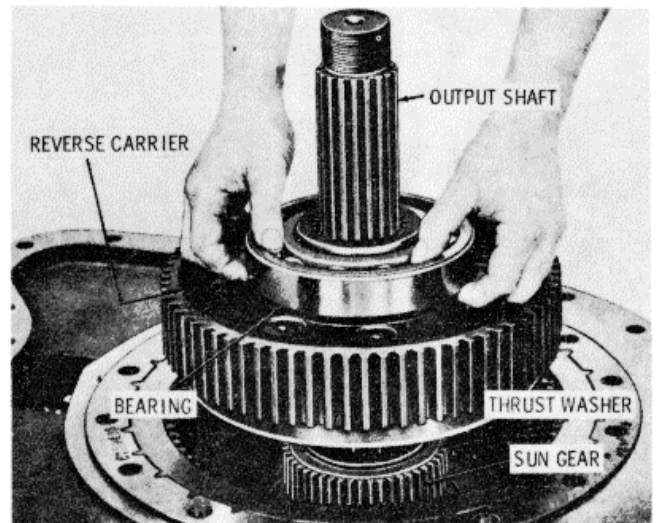

Figure 15-68. Removing Reverse-Gear Planetary Carrier and Bearing
2. Grasp the reverse planetary carrier bearing and remove the bearing and the reverse planetary carrier and ring gear, as a unit, from the output shaft (Figure 15-68). Remove the bronze thrust washer from the reverse sun gear (or from the underside of the carrier assembly).